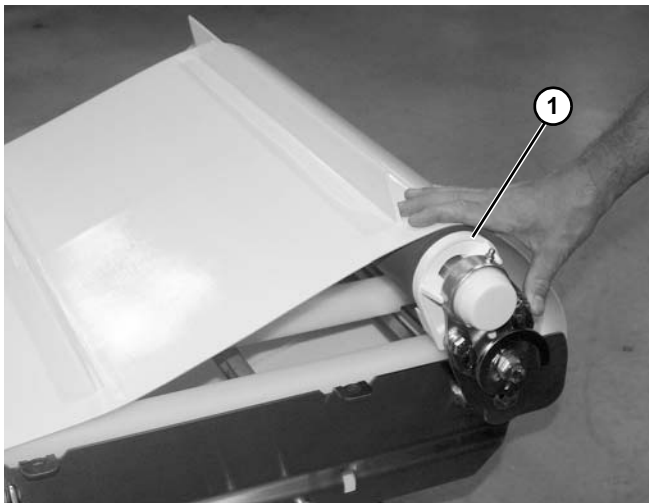

Figure 121
2. Rotate idler end (**Figure 121, item 1**) upward as shown.